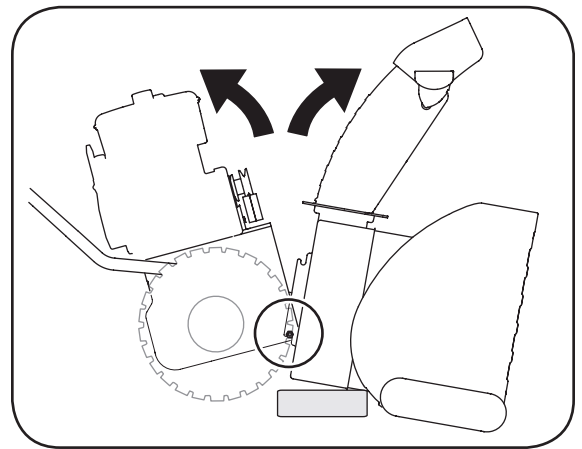

Figure 29
8. Place a block of wood underneath the auger housing as shown in Figure 29 and separate auger housing from the frame by tilting the housing forward and pulling up the handles.